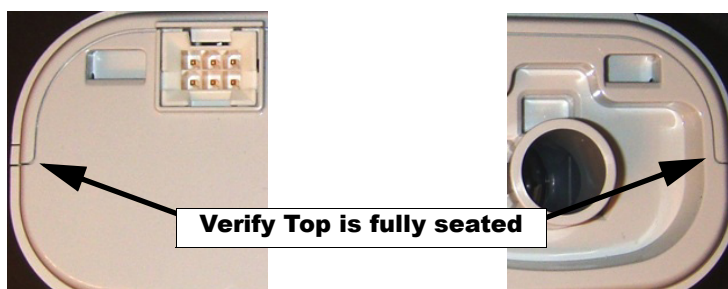

FIGURE 7-4: UPPER ENCLOSURE SEATED
1. Align and snap the Upper Enclosure into place (refer to Figure 7-4).